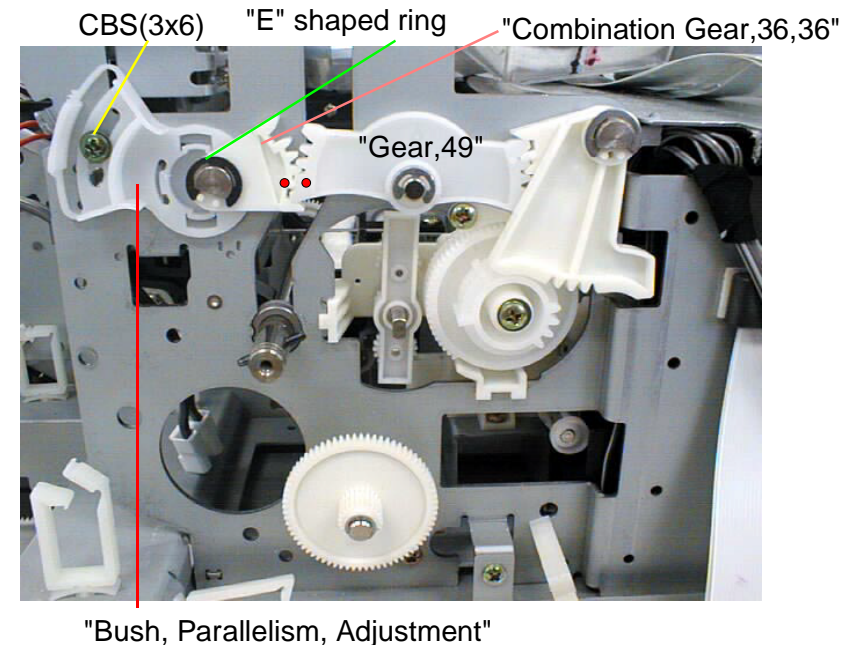

Figure 4-33. Releasing Carriage Guide Axis at left side
6. Remove one CBS screw(3x8) pressing "Bush, Parallelism, Adjustment" and remove "Bush, Parallelism, Adjustment". (Refer to Figure4-33)
There is alignment between "Combination Gear, 36,36" and "Gear,49". When assembling them, install them to each axis, matching "O" marked on the both gear surface(red circle in the figure4-33).